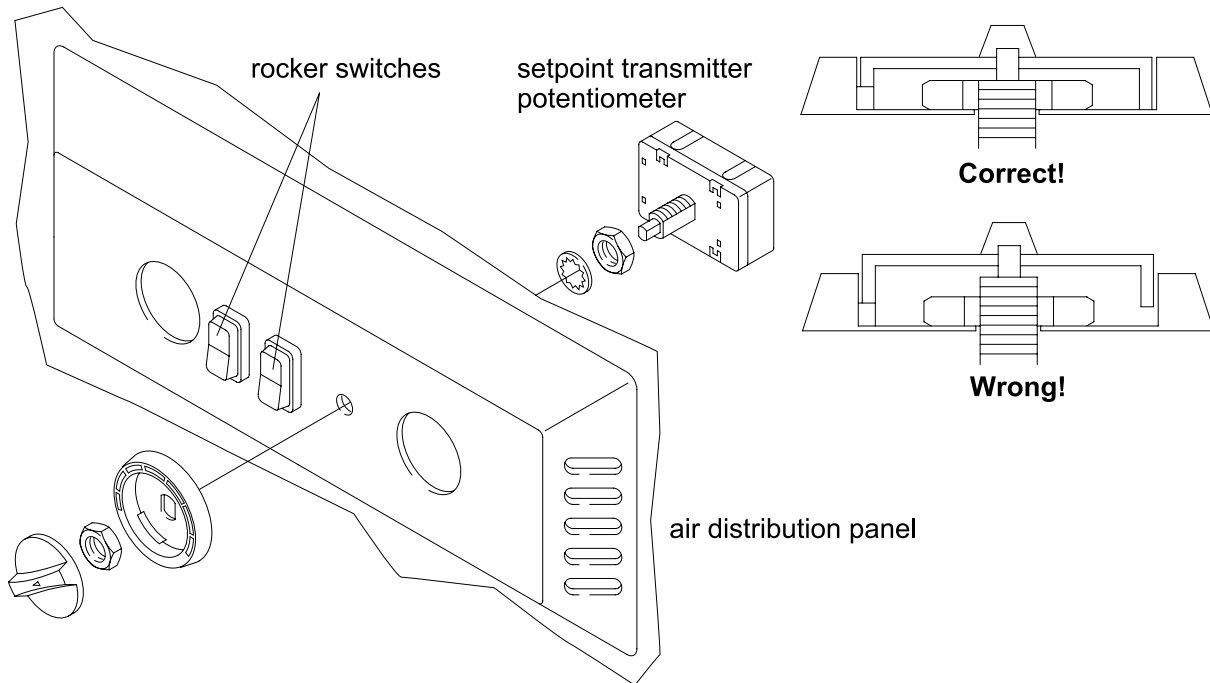

Fig. 4.10
Push the rocker switches into the rectangular cut-outs provided in the air distribution panel until they lock into place. (Fig. 4.10)
Insert the setpoint generator potentiometer into the hole in air distribution panel as shown in Fig. 4.10.
- Cut out the openings in the cover shown in Fig. 4.10 (1), round off the corners and deburr the edges.